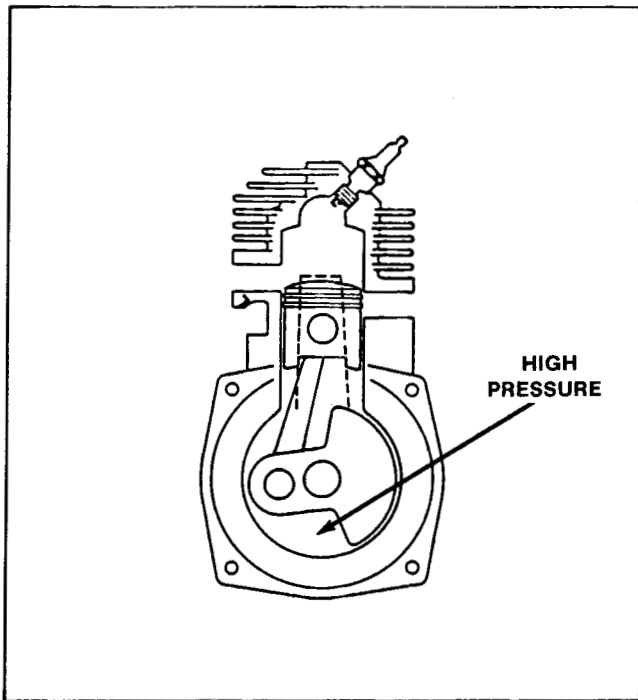

Figure 83
7. The piston then begins its downward stroke. As this occurs, pressure begins to build in the lower crankcase. See Fig. 83.